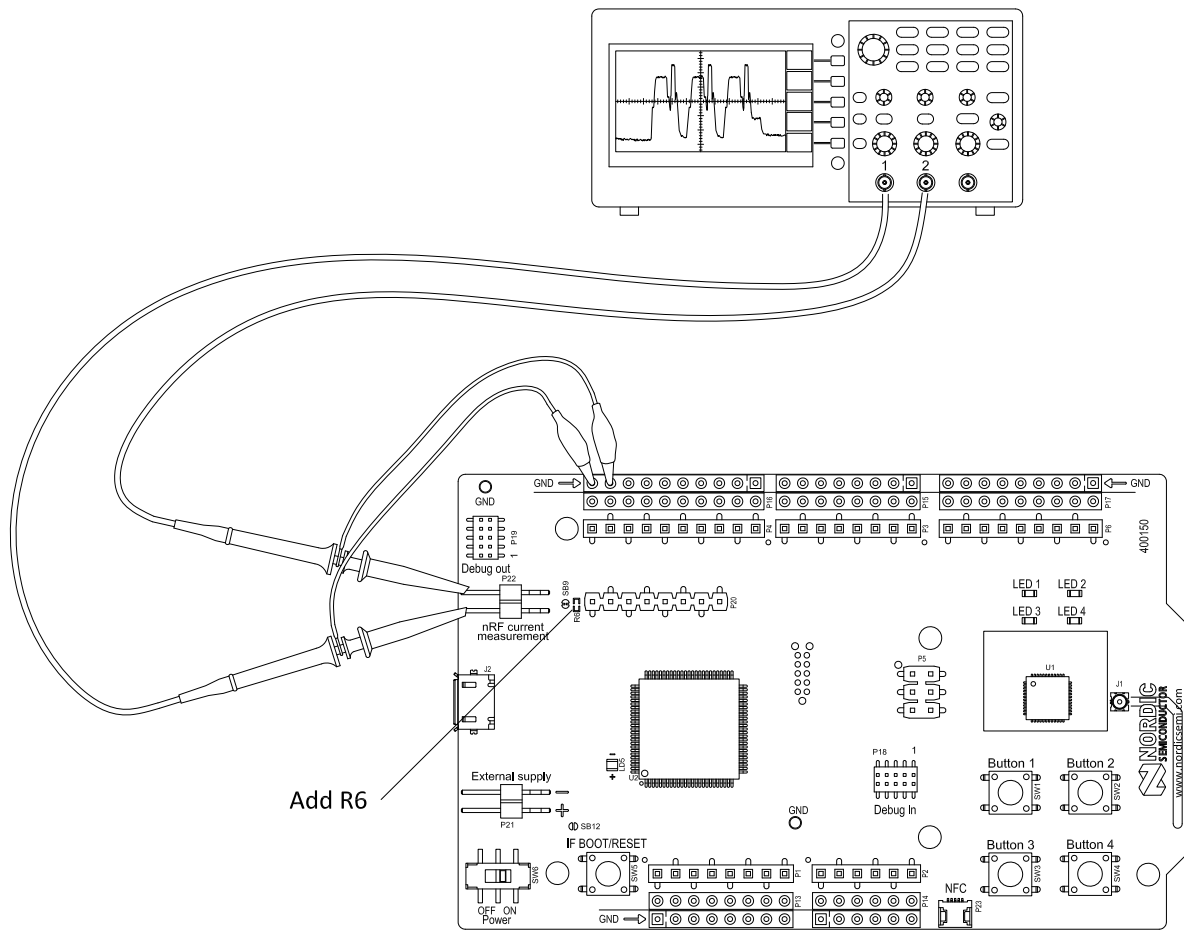

Figure 19: Current measurement with oscilloscope
3. Connect an oscilloscope in differential mode or similar with two probes on the pins of the **P22** connector as shown in Figure 19: Current measurement with oscilloscope on page 23.